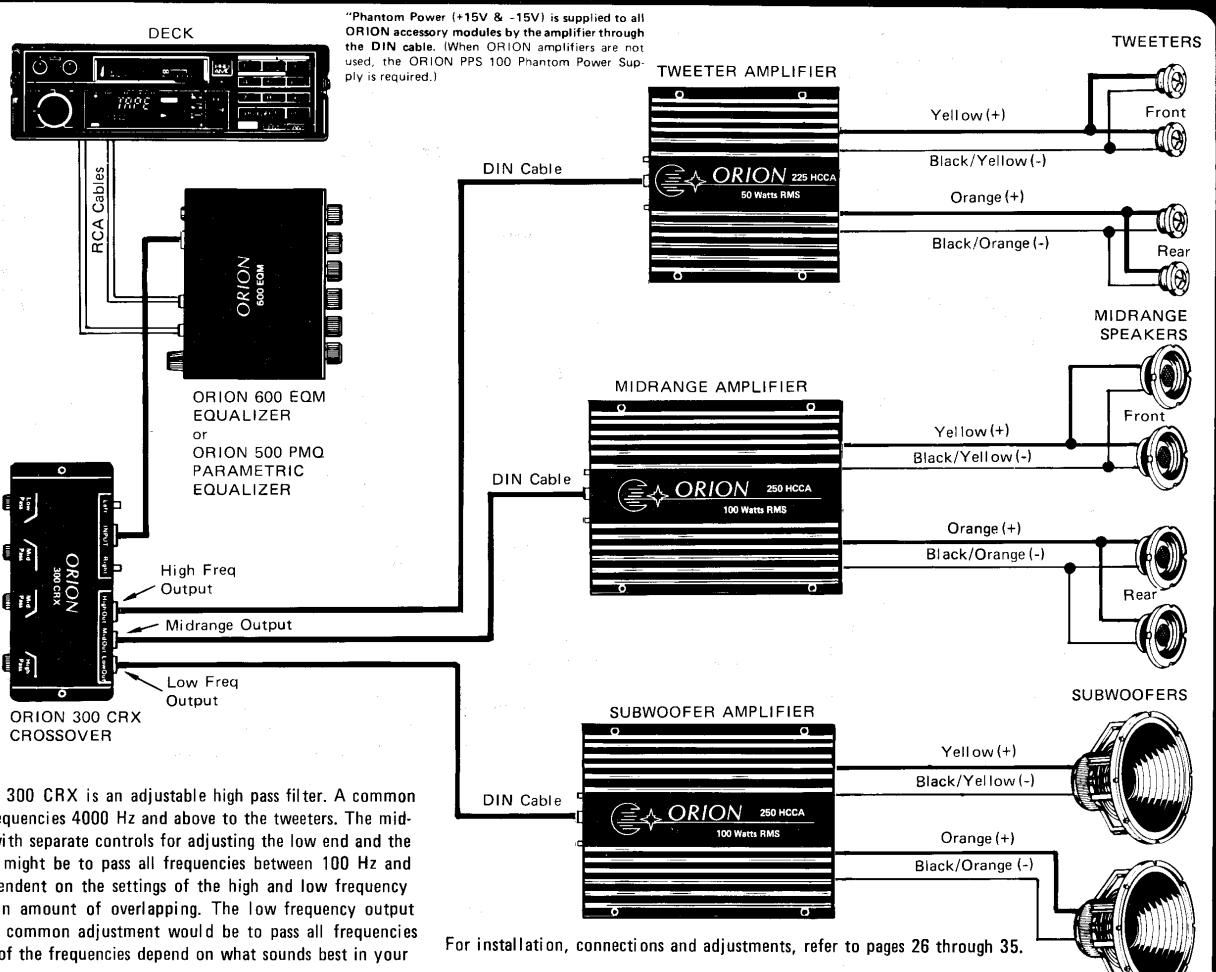

Figure 7. Three-Amplifier System Using a 300 CRX 3-Way Active Crossover
- (2) **Use of 300 CRX 3-Way Active Crossover.** For even better control, use the 300 CRX as shown in figure 7. This will give you separate control of the low frequencies, midrange frequencies, and high frequencies.
For this application, the 300 CRX 3-Way Active Crossover is used to select the high, mid and low frequencies as described in figure 7. The low frequency stereo output is applied to a 400 BDG Bridging Module where one channel is turned over 180 degrees (inverted) with respect to the other channel. The inverted channel output of the amplifier is now used as speaker ground and the non-inverted channel is used as speaker positive. The BLACK/YELLOW and BLACK/ORANGE leads are NOT used. Two 8-ohm subwoofers are connected in parallel. This reduces the impedance to 4 ohms, thus increasing the effective power even more.